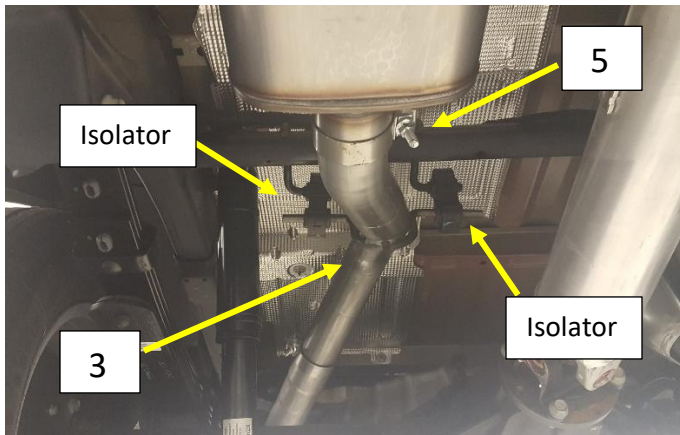

Figure.5
13. Install a Supplied 3.0" band clamps (5) on to the muffler outlet with the bolt at the top and the nut facing the ground . Do not tighten **Fig.5**
14. Install the Muffler Outlet Pipe (3) into the muffler outlet. Install the hanger rod into the isolators over the muffler, tighten the clamp to allow for adjustment. **Fig.5**